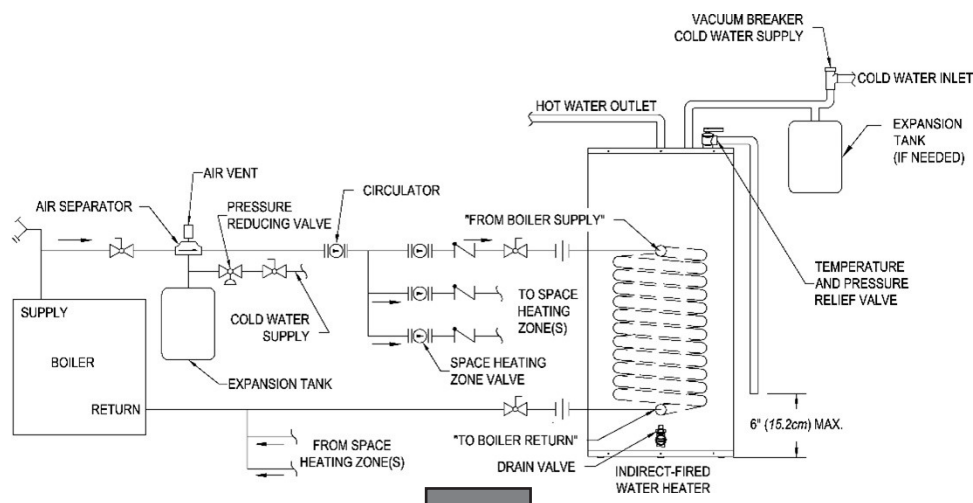

Fig. 4
2. For a space heating system that utilizes CIRCULATORS, refer to Figure 4. The indirect-fired water heater connection labeled “FROM BOILER SUPPLY” should be piped to the boiler supply piping. Mount the circulator making sure the flow arrow points toward the water heater. The use of shut-off valves and unions are recommended for future service convenience. The use of an air separator and vent is recommended to eliminate air in the system. Pipe and fittings between the boiler and indirect-fired water heater must be ¾” diameter or larger.